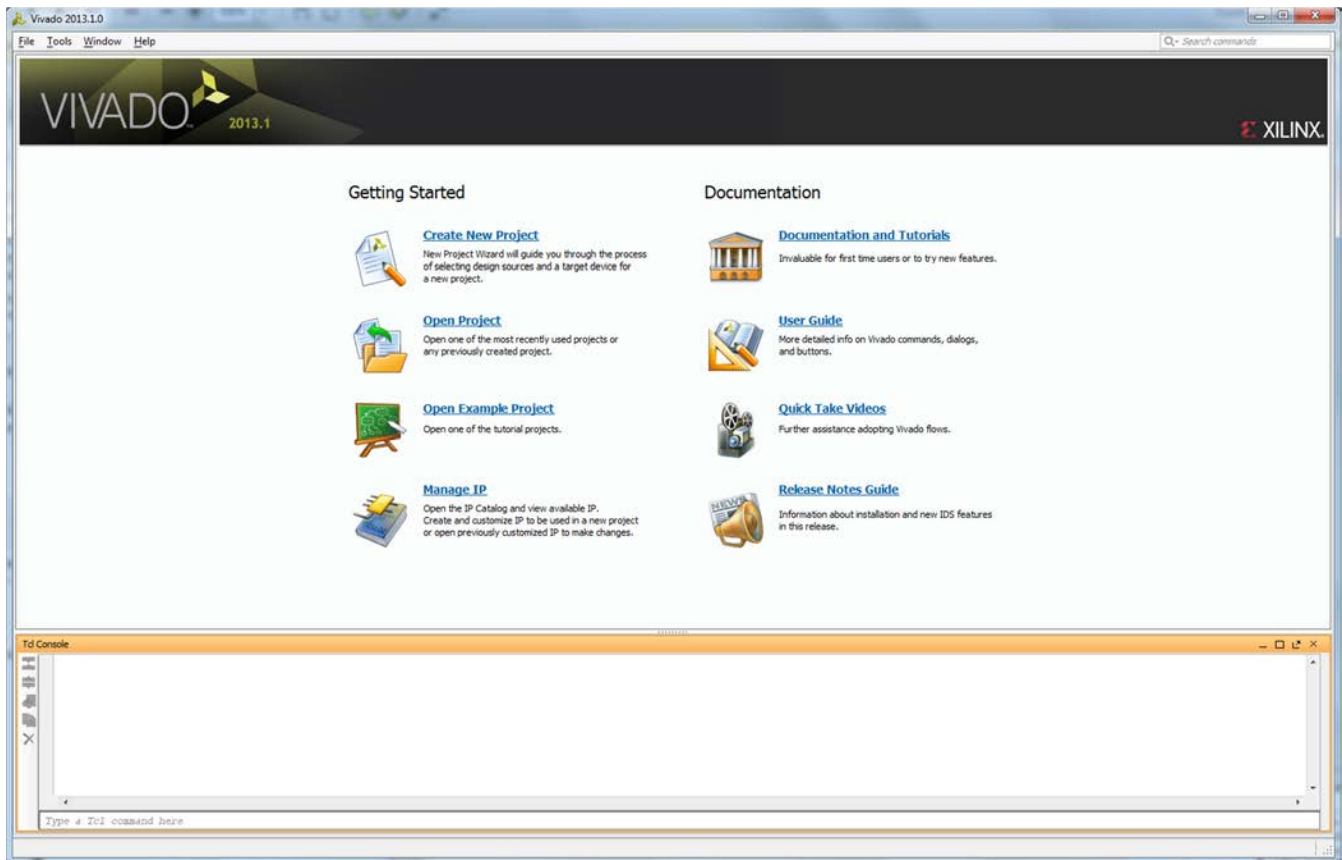
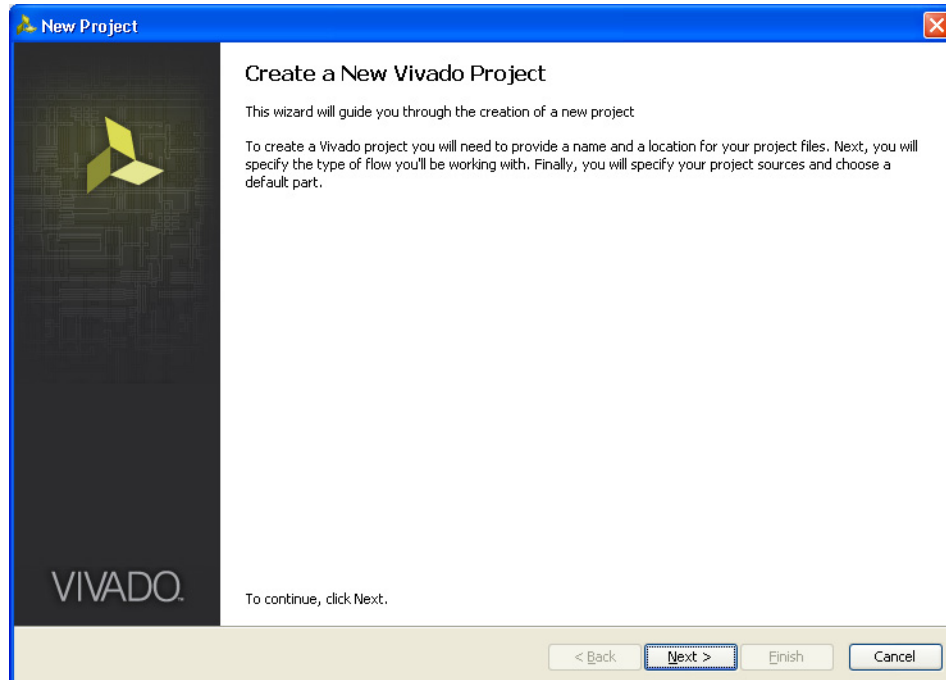

Figure 1-1: Vivado Tool
Figure 1-2: Create a New Vivado Tool Project
1. Invoke the Vivado IP (see Figure 1-1).
2. To create a new project, click the **Create New Project** option shown in Figure 1-1 to open the page as shown in Figure 1-2.